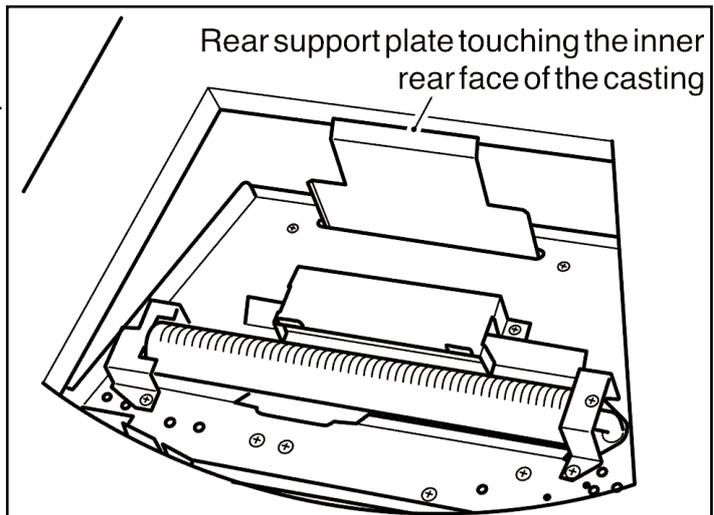

Figure 12. Locating burner into the Liberty Casting
7. It is important to position the casting so that the fuel bed support plate on the rear of the burner touches the rear inner edge of the casting. (See figure 12).